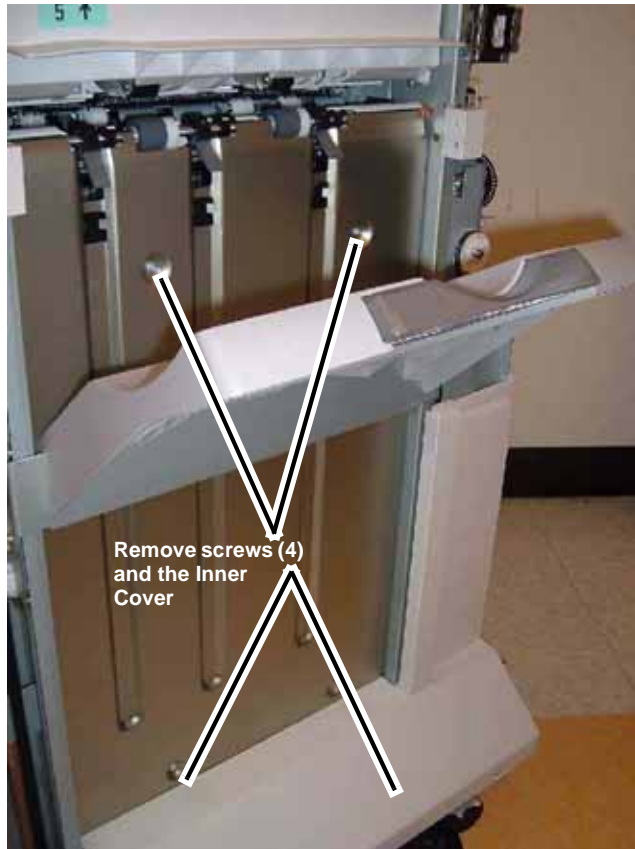

Figure 1 Removing the Inner Cover
2. Remove the Inner Cover (Figure 1).